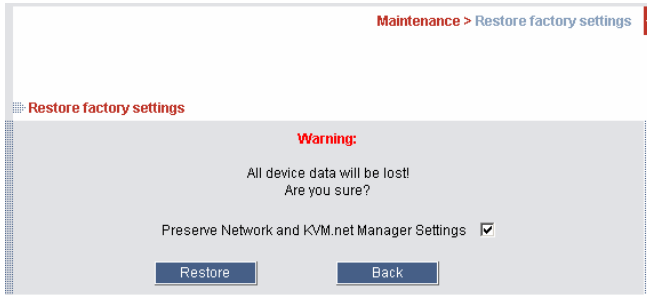

Figure 11 Restore factory settings
1. From the menu select **Restore Factory Settings**. Restore Factory Settings appears see Figure 11.